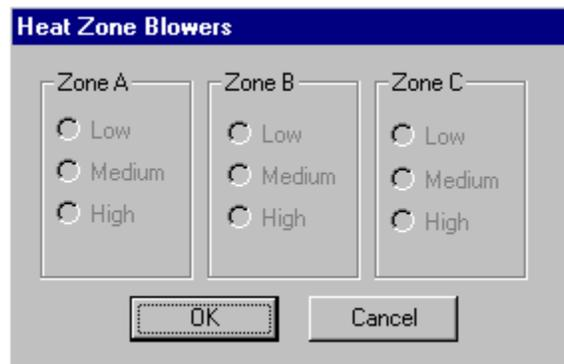

Figure 17
- d. Heat Zone Blower (optional) will control the blower speed as Low, Medium or high. This Low, Medium and High values are set at the factory. From the menu bar click Edit then Heat Zone Blower or click the set the Heat Zone Blower icon on the main toolbar. **See Figure 17.**